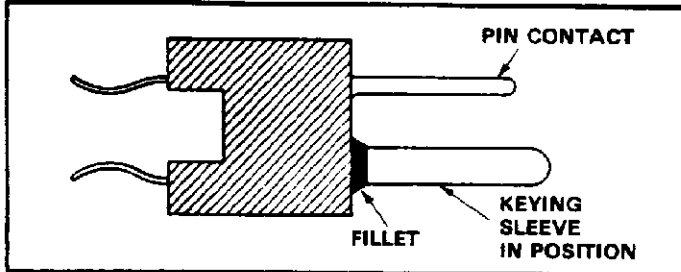

Fig. 13
2. Slide the sleeve over the contact until it bottoms on the contact. A small fillet of glue should form at the base of the keying sleeve, as shown in Figure 13.